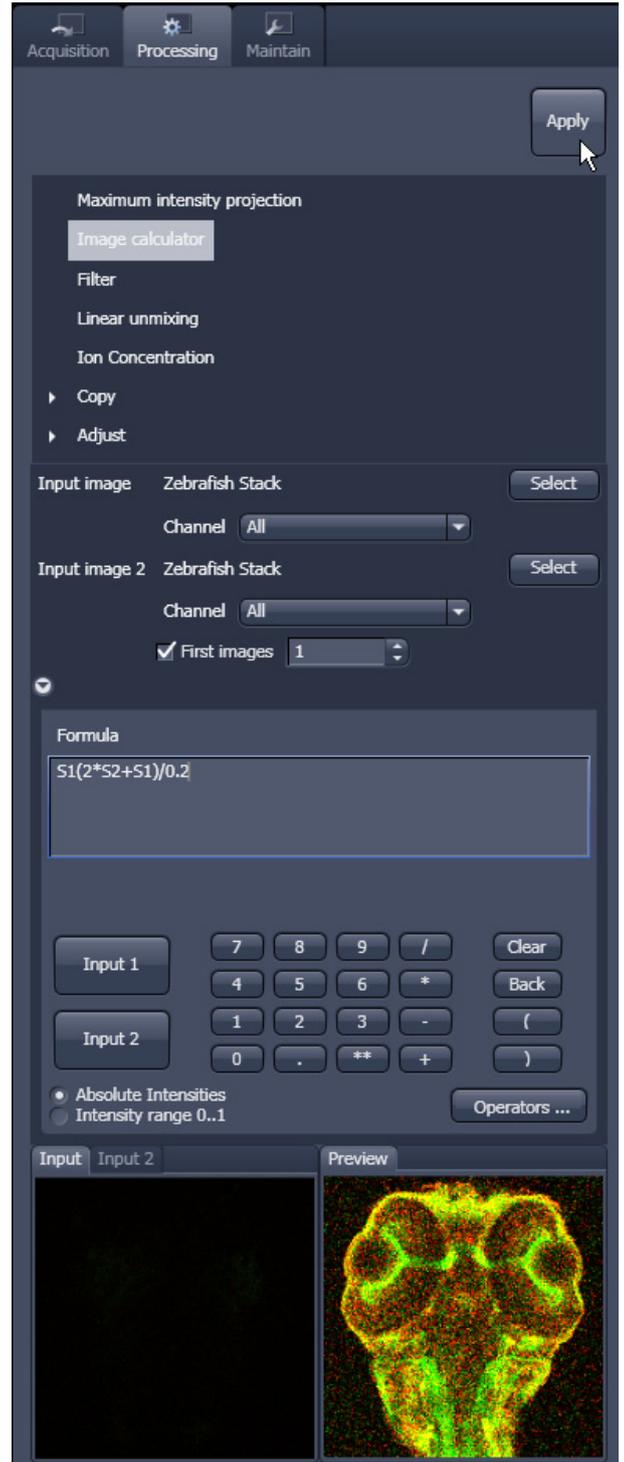

Fig. 5-69 The Image Calculator window
- To open the **Image Calculator** tool (Fig. 5-69), click on the **Image Calculator** in the list of methods in the **Processing** main tool tab.
After loading 2 input (source) images and specifying the input channels, the calculator keyboard allows the definition of an operator or a combination of operators which is represented by a formula in the formula display. The operators will be inserted into the formula at the cursor position. The formula can also be typed in directly. For an overview of the available more advanced operators, please refer to the formula panel that is shown in a pop-up window after clicking the **Operators ...** button (Fig. 5-69).